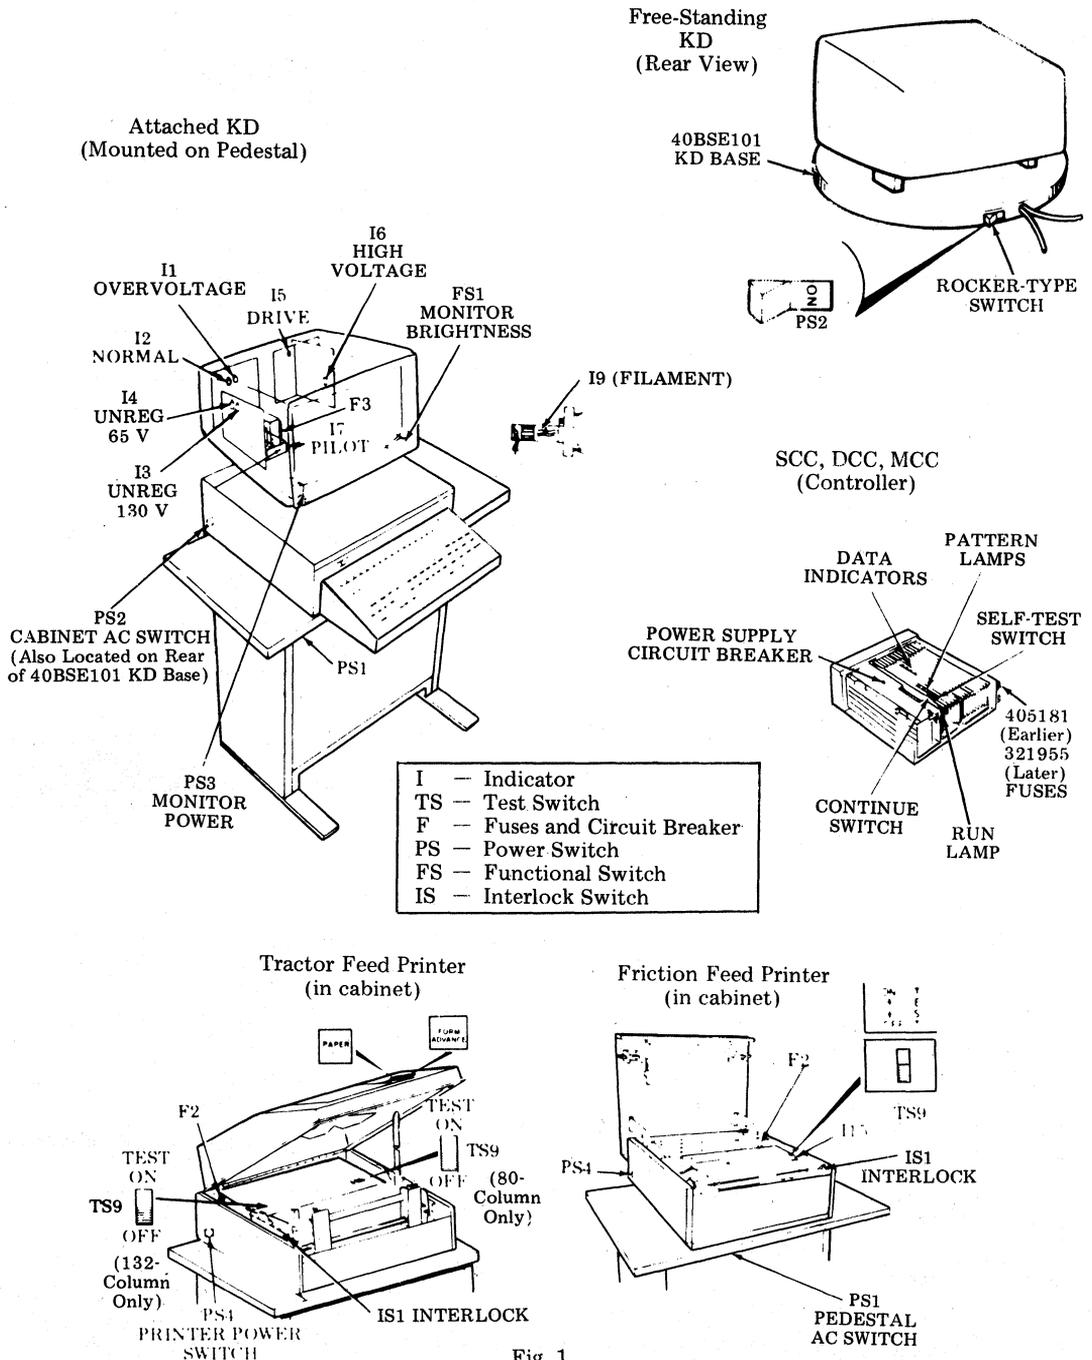

Fig. 1
1.06 Test switches and indicators are shown in Fig. 1.